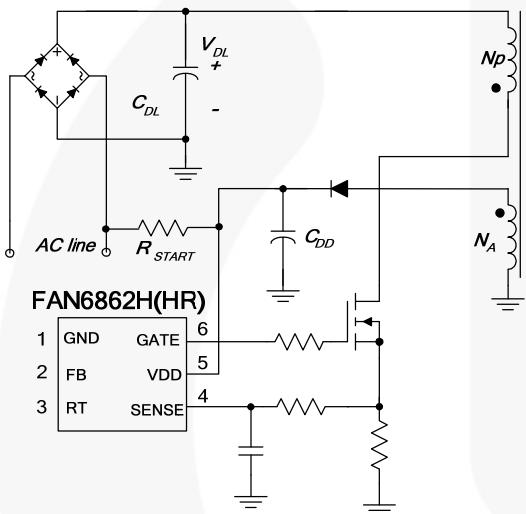

Figure 22. Startup Circuit
Figure 22 shows a typical startup circuit and transformer auxiliary winding for a FAN6862H(HR) application. Before FAN6862H(HR) begins switching, it consumes only startup current (typically 8μA) and the current supplied through the startup resistor charges the V_{DD} capacitor (C_{DD}). When V_{DD} reaches a turn-on voltage of 16V (V_{DD-ON}), switching begins and the current consumed increases to 2mA. Then, the power required is supplied from the transformer auxiliary winding. The large hysteresis of V_{DD} (8.5V) provides more holdup time, which allows using a small capacitor for V_{DD} . The startup resistor is typically connected to the AC line for a fast reset of latch protection.